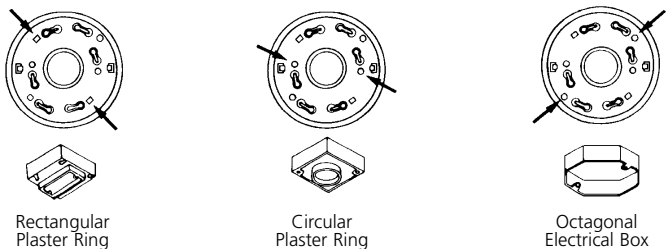

Figure 5 SELECT CORRECT MOUNTING HOLES ON TRIM RING
2. After selecting the proper smoke alarm location as described in Section 2 and wiring the AC QUICK CONNECT harness as described in the WIRING INSTRUCTIONS, attach the trim ring to the electrical box (see figure 5).
3. Use a screwdriver to punch out only the pair of holes in the trim ring that match your type of electrical box or plaster ring. Mount the trim ring to the electrical box, using the appropriate holes. NOTE: Use the circle, square and octagon markings near each mounting hole in the trim ring to help you select the correct mounting holes (see figure 5).
4. Pull the AC QUICK CONNECTOR through the center hole in the trim ring and mount the ring, making sure that the mounting screws are positioned in the small ends of the keyholes before tightening the screws (see figure 5).